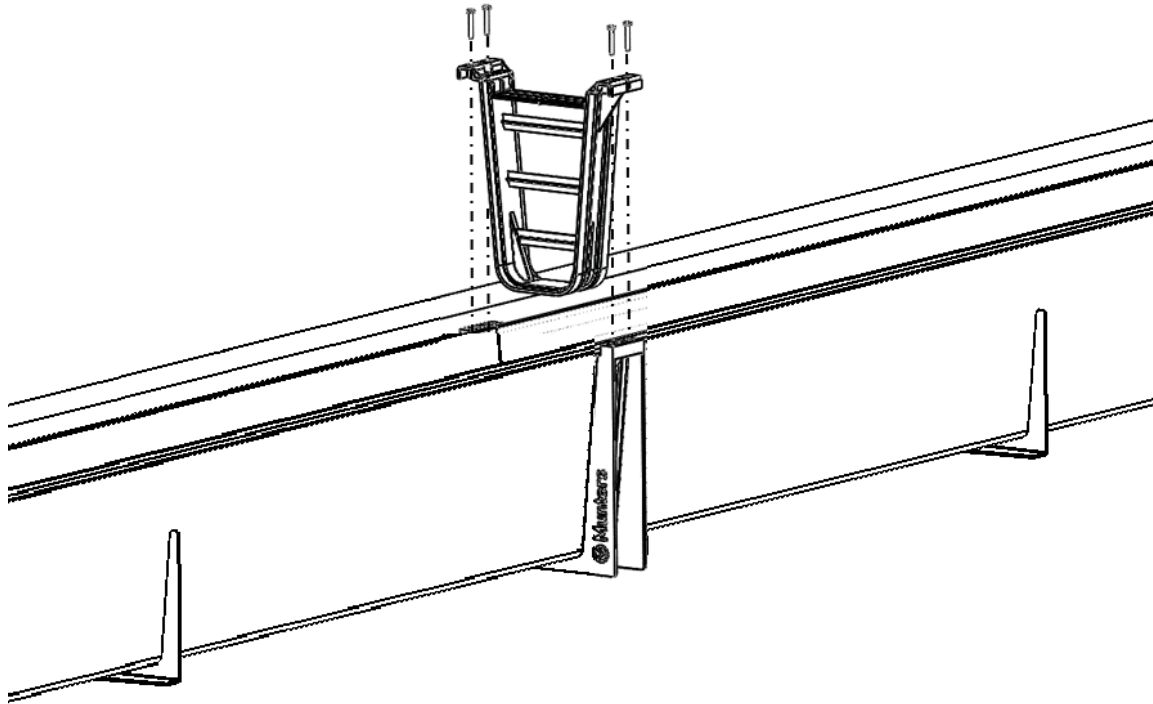

Figure 11
Each time, insert the Internal Joint Bracket [ref. 6] and fix it to the External Joint Bracket by means of (4 pcs) Screws for thermoplastic [ref. 7]. See Figure 11.